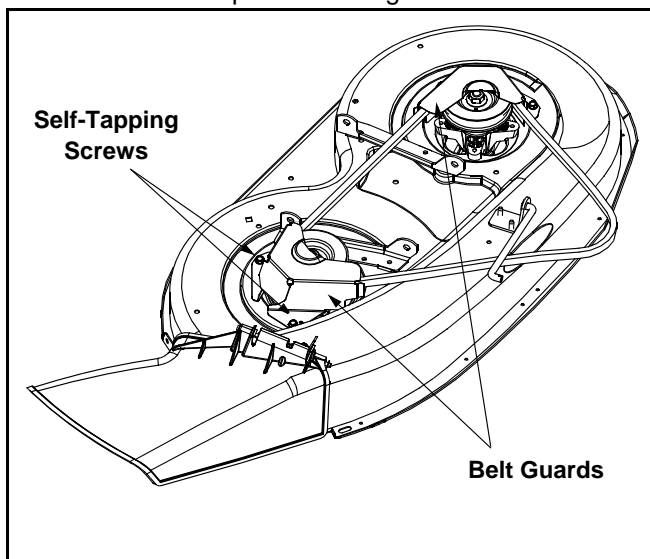

Figure 20
- Remove the belt guards (located over each spindle pulley) by removing the self-tapping screws which secure them in place. See Figure 20.